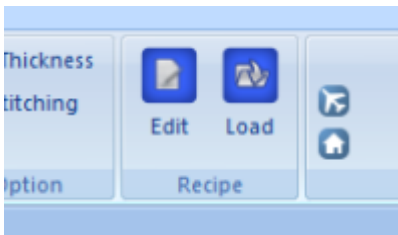

Fig. 21. Recipe buttons in Live Image tab
- Click the **Load** button in the *Recipe* group of the *Live Image* tab, shown in Fig. 21.
- Click the **Edit** button in the *Recipe* group of the *Live Image* tab, as shown in Fig. 21.